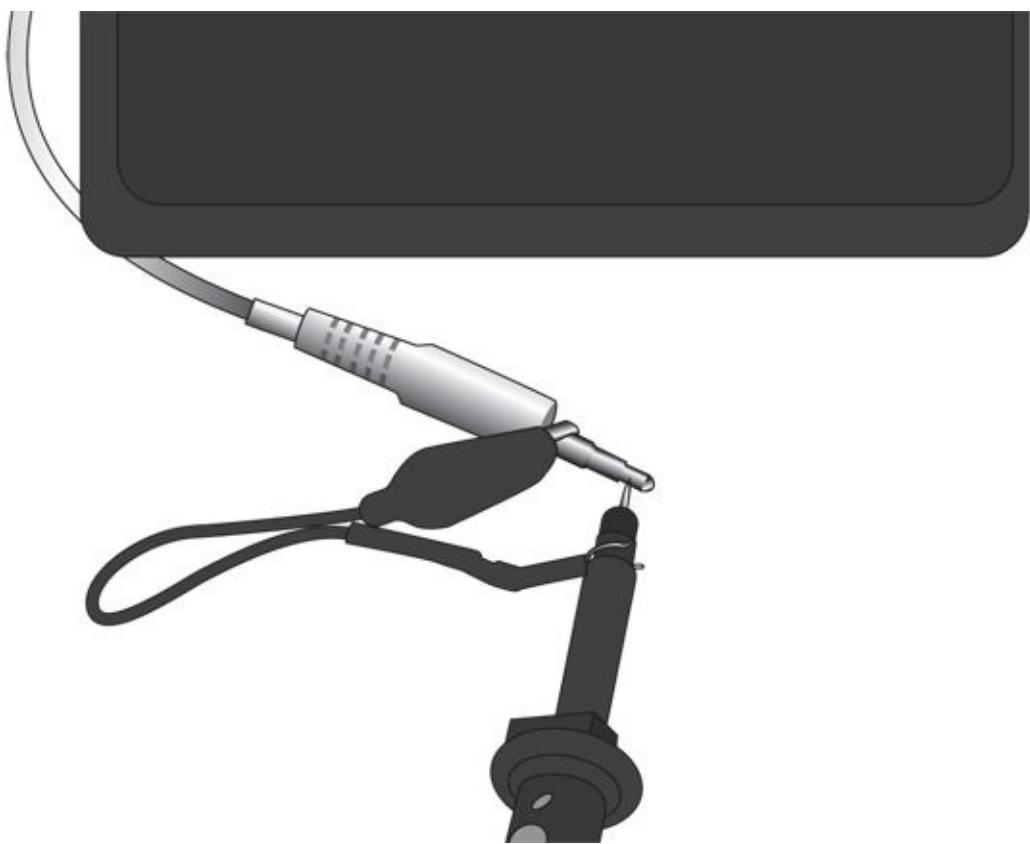

FIGURE 9-5: Connecting an oscilloscope probe to an audio plug.
- If you want to see what an audio waveform looks like, find a short $\frac{1}{8}$ -inch audio cable that's male on both ends. Plug one end into the headphone jack of any audio device, such as a radio or an iPod. Then, connect the probe's ground lead to the shaft of the plug on the free end of the audio cable and touch the probe tip to the tip of the audio plug, as shown in Figure 9-5. After fiddling with the VOLTS/DIV and TIME/DIV settings, you should see a display of the jumbled waveform that's typical of audio signals.